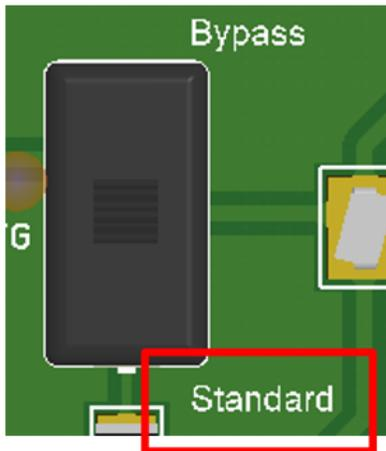

Figure 22. Bypass vs Standard = 'Standard'
- Set this switch to “Standard” (*the “Bypass” setting is for designs that did not use TI’s programming board for the solution*) as shown in Figure 22